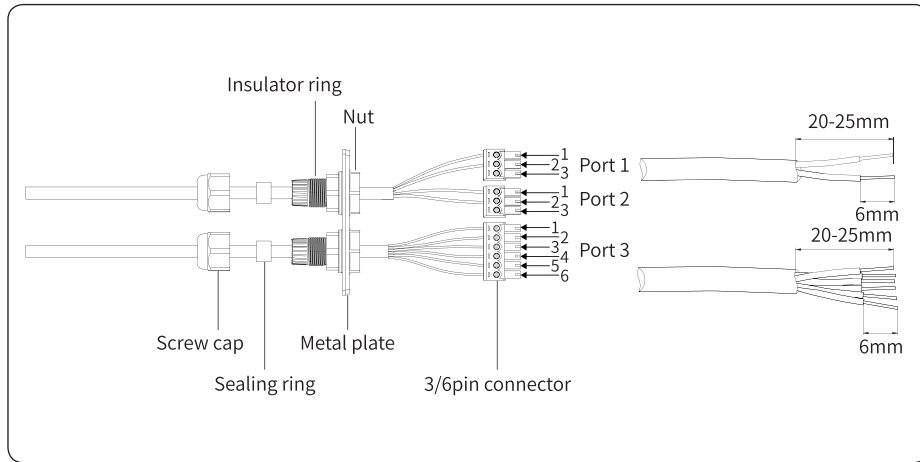

Figure 4-23
- 2) Put the cable through the connector and connect to the terminal in the following order: screw cap, sealing ring, insulator, metal plate, nut and 3/6pin connector, as shown in Figure 4-23: